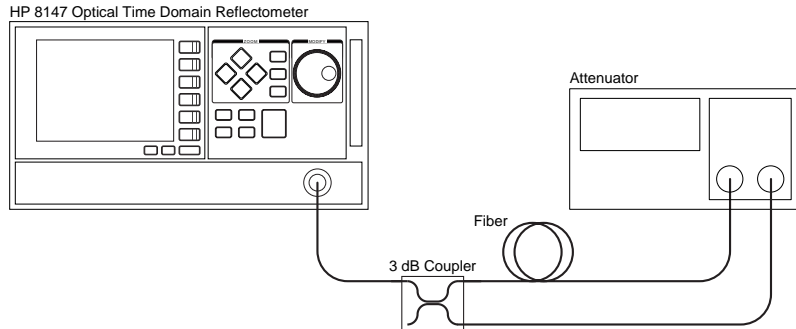

Figure D-4 Event Deadzone Test Setup
- 1 Make sure that all optical connectors are clean and connect the equipment as shown in Figure D-4.